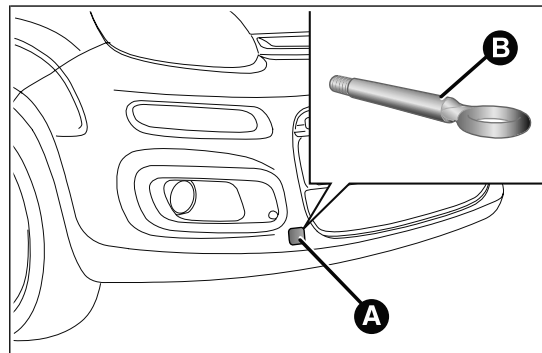

fig. 145
- ☐ disconnect the connector A fig. 145 (pressing the button B) from the sensor C monitoring the battery conditions, on the negative pole D of the battery;
- ☐ after having disconnected the battery charger, reconnect connector A fig. 145 to the sensor C as shown.